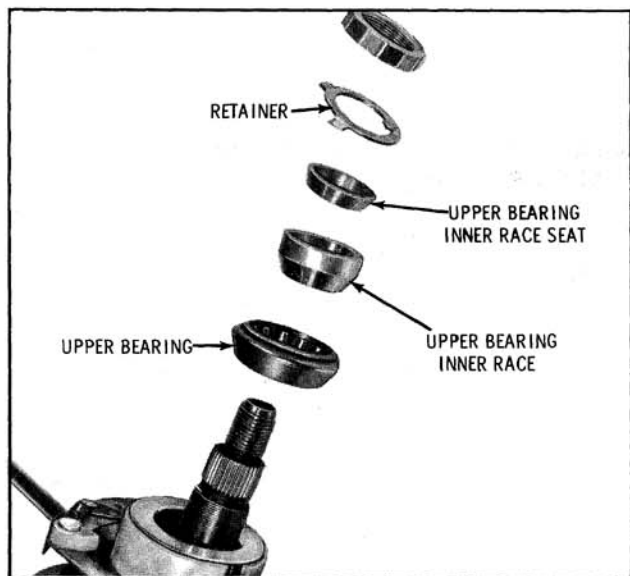

Fig. 8-116 Installing Upper Shaft Parts
6. Install the upper bearing, bearing inner race and inner race seat. (Fig. 8-116)